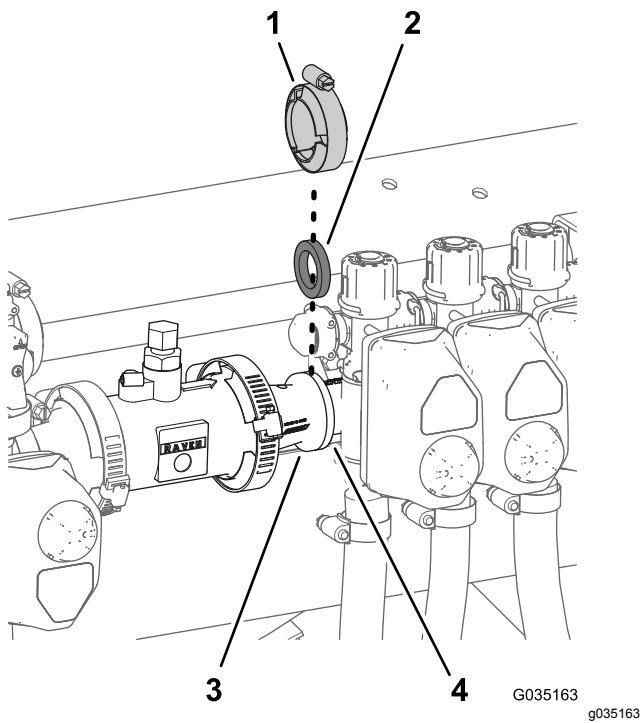

Figure 36
3. For machines **with** the ExcelsaRate sprayer system, remove the flange clamp and gasket that secures the reducer adapter to the left boom-section valve (Figure 36).